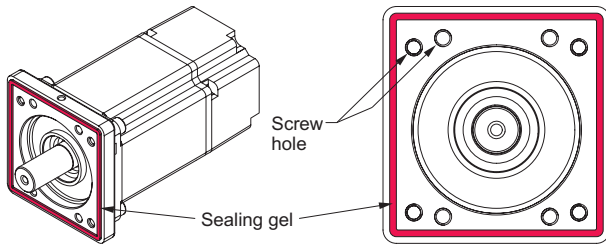

Figure 10: Sealing gel applied on the tensioning plate **6**.
- Apply the sealing gel **26** to the cleaned tensioning plate **6** as it is presented on the Figure 10 (the gel must be applied continuously in a closed loop so the screw holes are inside the applied gel; it should be noted that surface shape may vary depending on the motor side drive size and type).